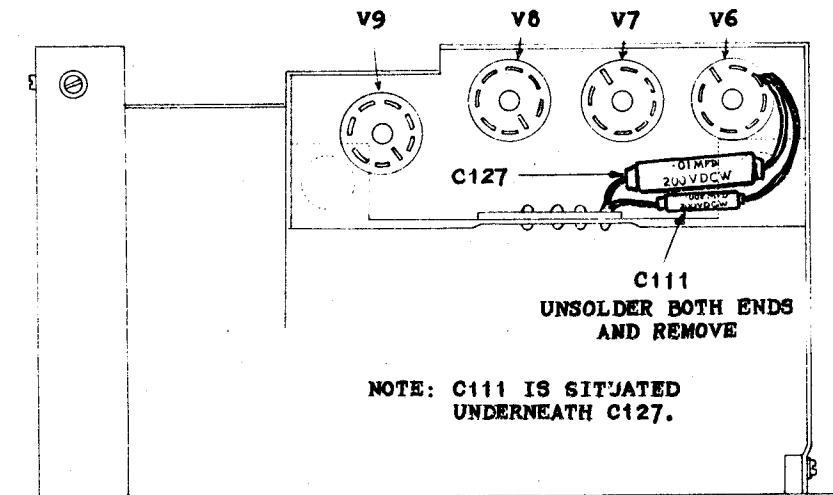

FIG. 2
9. Remove C 111 and install C 129 in the following manner (see Fig. 2 and 3):-